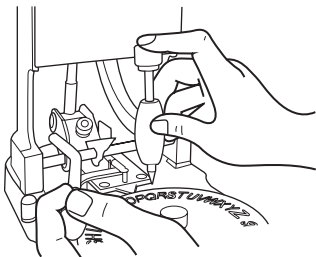

Fig. 2.1
- Pull the Stylus Arm (9) out of its catch.
- With your right hand, depress the Tracing Stylus Shaft (10) against any desired template letter (**Fig. 2.1**).